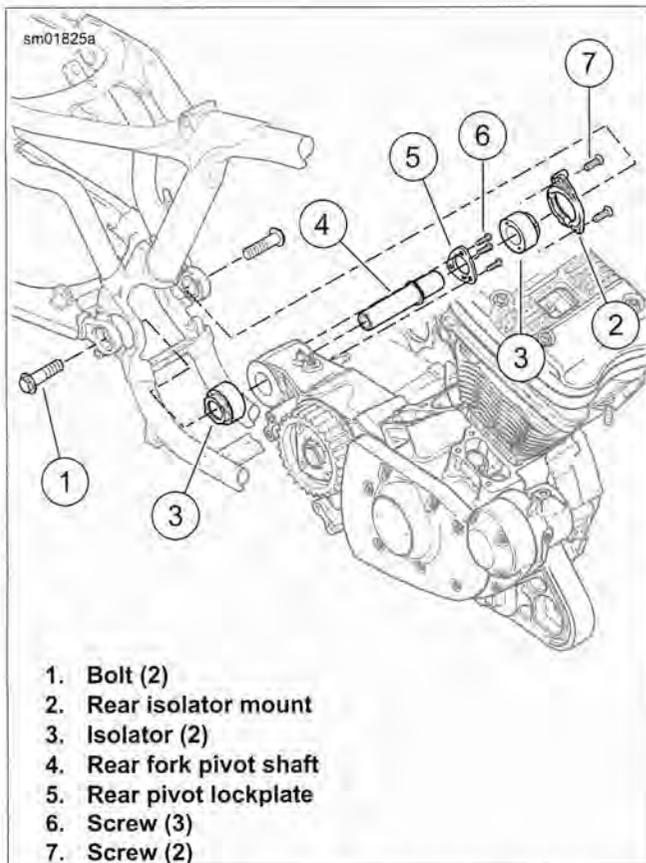

Figure 2-173. Rear Engine Mount/Isolator: Typical (XL Models)
10. See Figure 2-173. Remove rear fork pivot bolts (1).
17. See Figure 2-173. Remove two screws (7) securing rear isolator mount (2) to left side of frame. Remove isolator mount and left isolator (3).
18. Remove three screws (6) securing rear pivot lockplate (5) to rear of engine case. Remove lockplate and rear fork pivot shaft (4).
1. See Figure 2-173. Install **new** right rear isolator (3) into frame, lining up tabs on isolator with slots in frame. Slide rear end of engine to the right until engine mounting boss on rear of crankcase contacts right isolator.
2. Slide rear fork pivot shaft (4) through engine mounting boss.
11. See Figure 2-173. Slide rear fork forward into position. Install rear fork pivot/engine mount bolts (1). Tighten to 60-70 ft-lbs (81.4-95.0 Nm). Remove vehicle tiedown straps supporting rear fork.